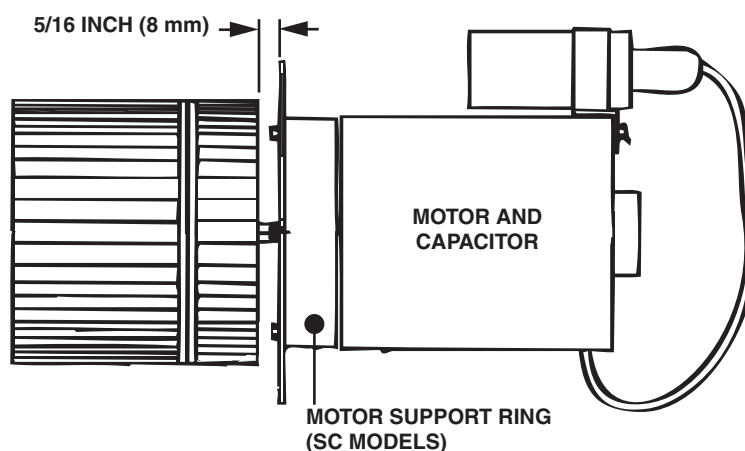

Figure 1. Venter Motor and Wheel Assembly
- c. Save all hardware for reuse including support ring on SC models (see Figure 1).
- a. Secure venter wheel to motor shaft on replacement motor using existing hardware. Ensure that there is 5/16-inch gap between wheel and motor mounting plate as shown in Figure 1. Secure venter motor and wheel assembly to furnace using existing hardware.